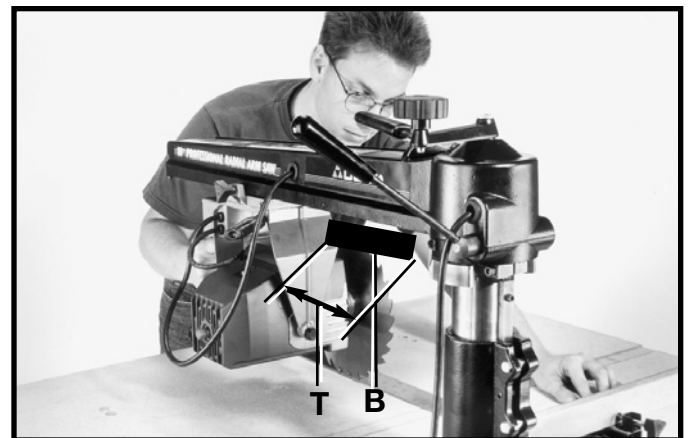

Fig. 53
A block of wood placed at (B) Fig. 53 clamped to the track arm with a small "C" clamp will prevent unnecessary travel (T) of the cutting-head on the track arm. This is especially useful when performing repetitive operations. Clamp the block of wood to the right side of the track arm at a position which will stop the cutting-head travel as soon as the saw blade cuts through the workpiece.